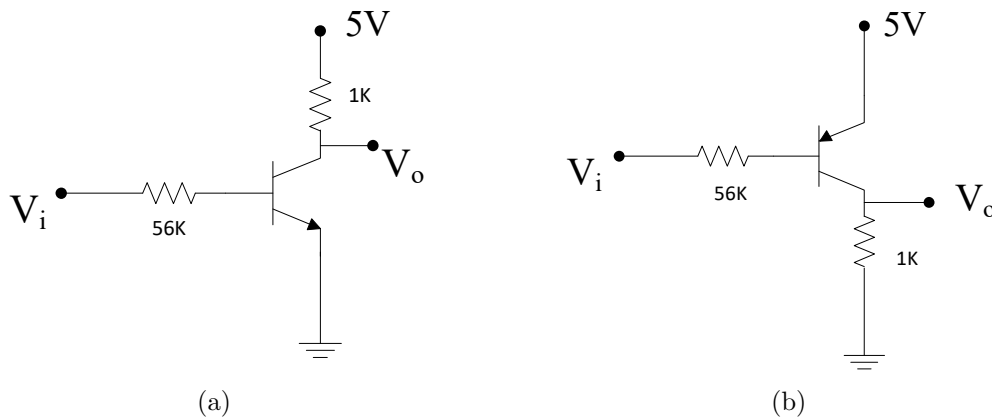

Figure 5.1: Operation modes of: (a) a npn BJT circuit; (b) a pnp BJT circuit.
- In Fig. 5.1(a), derive the relationship between V_i and V_o if V_{BEon} is 0.6 and β is 200
- In Fig. 5.1(b), derive the relationship between V_i and V_o if V_{EBon} is 0.6 and β is 200
- Construct the circuit in Fig. 5.1(a) using a 2N3904 npn BJT
- Construct the circuit in Fig. 5.1(b) using a 2N3906 pnp BJT